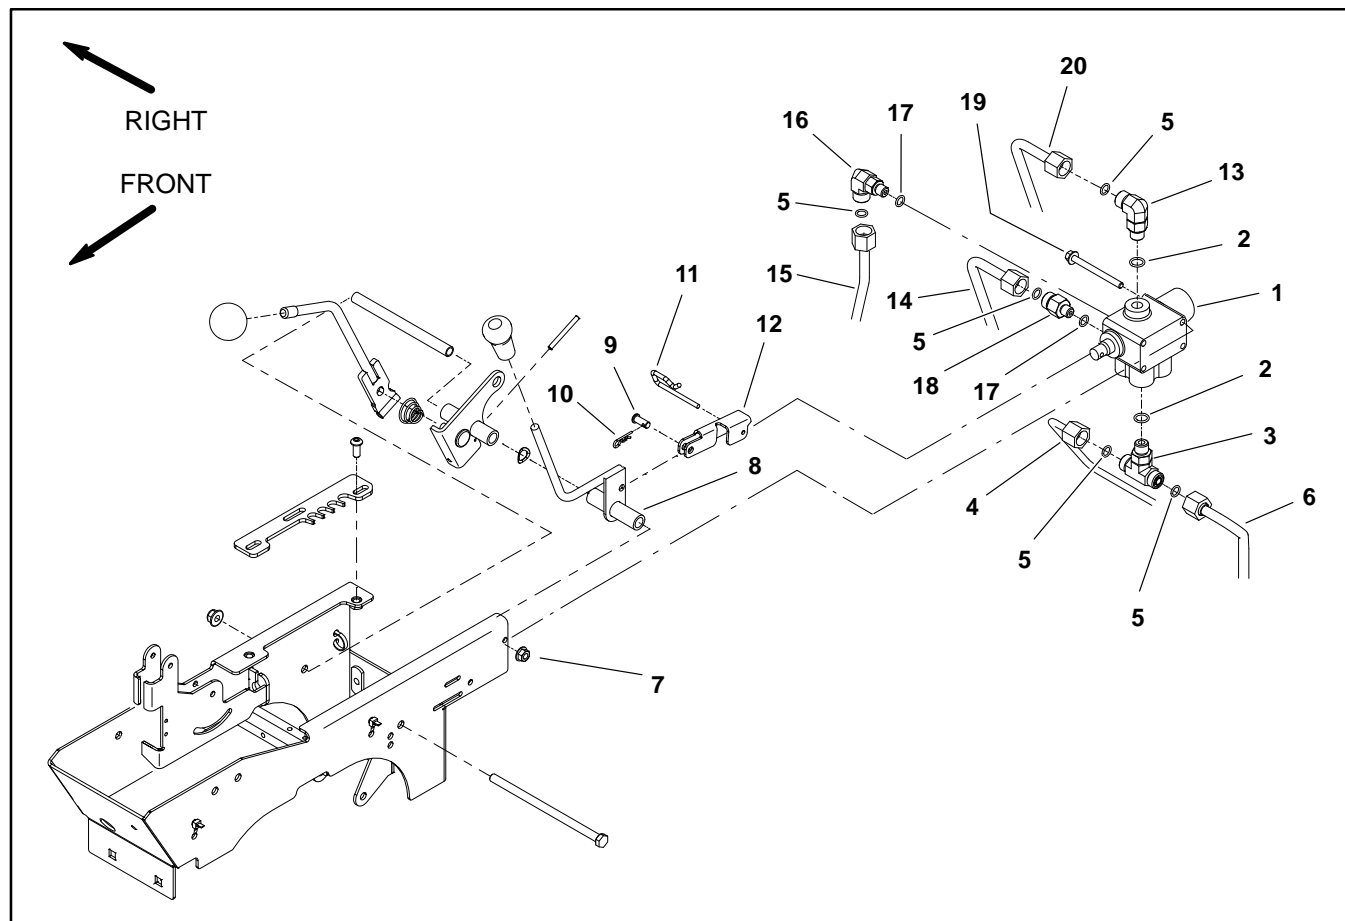

Figure 34
Removal (Fig. 34)
5. Remove lift valve from vehicle using Figure 34 as a guide.
Installation (Fig. 34)
2. Install lift valve to vehicle using Figure 34 as a guide.